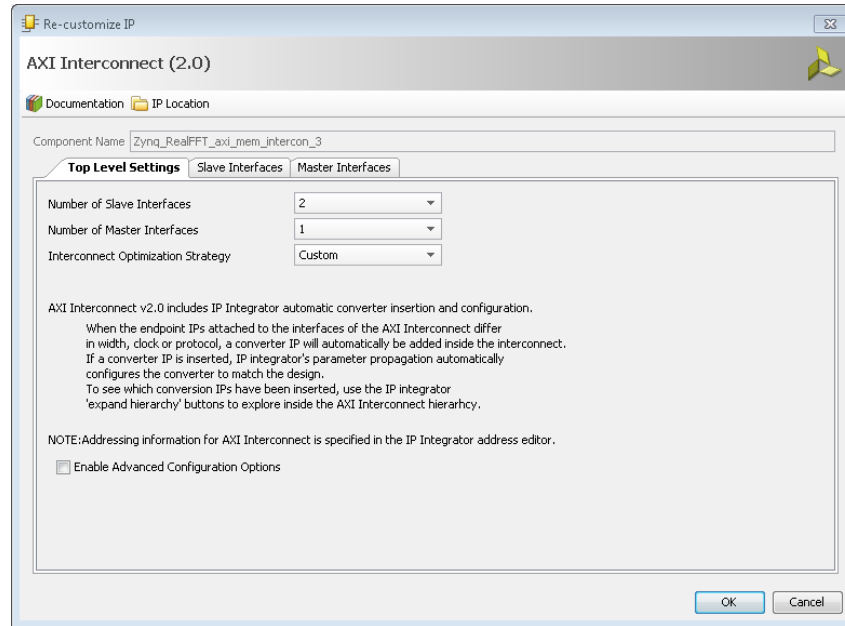

Figure 261: Customizing the AXI Interconnect
- a. Change the Number of Slave Interfaces from 1 to 2. (Figure 261).